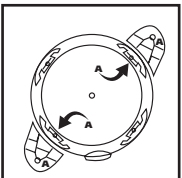

FIGURE 3
2. With tank drain facing you, take caster feet marked with letter **A** and place in slots on left front and right rear of tank also marked with the letter **A**. **FIGURE 3.**